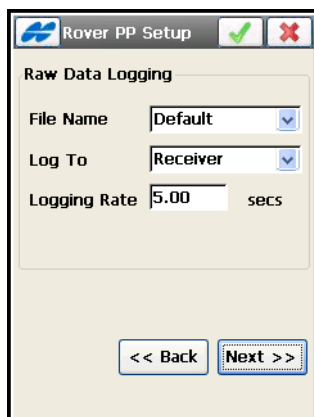

Figure 4-33. Rover PP Setup
7. On the **Rover PP Setup** screen (Figure 4-33 on page 4-30), set the logging parameters for the Rover receiver: the file name, logging rate, and the device in which raw data is logged to (currently only the Receiver is available).